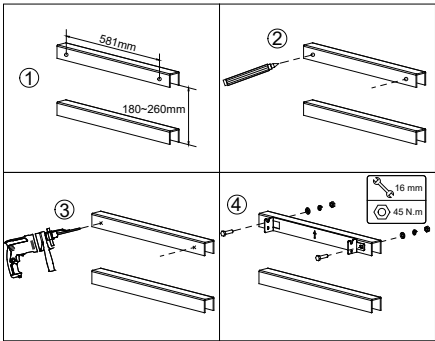

Fig 2.1 Bracket mounting
- Bracket mounting: Select the mounting height of the hanger according to Figure 2.1, mark the mounting holes, and drill holes at the marks. Attach the hanger to the bracket with the accessory M10 nuts.